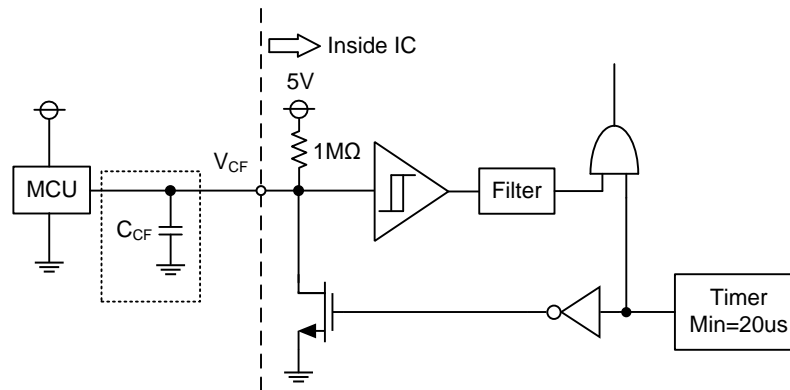

Figure 1. V_{CF} Output Circuit
- (1) If the control GND is connected with the power GND by common broad pattern, it may cause malfunction by power GND fluctuation. It is recommended to connect the control GND and power GND at a point (N1), near the terminal of shunt resistor.
- (2) A zener diode D1 (20V/1W) is recommended between each pair of control supply pins to prevent surge destruction.
- (3) Prevention of surge destruction can further be improved by placing the bus capacitor as close to pin P and N1 as possible. Generally a 0.1~0.22 μ F snubber capacitor C3 between the P-N1 terminals is recommended.
- (4) Selection of the R1*C4 filter components for short-circuit protection is recommended to have tight tolerance, and is temperature-compensated type. The R1*C4 time constant should be set such that SC current is shut down within 2 μ s; (typically 1.5~2 μ s). R1 and C4 should be placed as close as possible to the C_{SC} pin. SC interrupting time may vary with layout patterns and components selections, therefore thorough evaluation in the system is necessary.
- (5) It is recommended that all capacitors are mounted as close to the IPM as possible. (C1: electrolytic type with good temperature and frequency characteristics. C2: ceramic type with 0.1 μ F, good temperature, frequency and DC bias characteristics).
- (6) To prevent malfunction, the layout to each input should be as short as possible. When using the RC coupling circuit (R: 100 Ω , C: 1nF), place it as close to the IPM input pins as possible, and make sure the input signal levels meet the required turn-on and turn-off threshold voltages.
- (7) The V_{CF} pin can provide the fault output signal with the fixed or adjustable pulse width. If the V_{CF} pin is left, the pulse width is fixed at minimum 20 μ s. If a capacitor C5 is connected, the pulse width can be adjusted according to the capacitor value. For the design guide, please refer to the Figure 1.